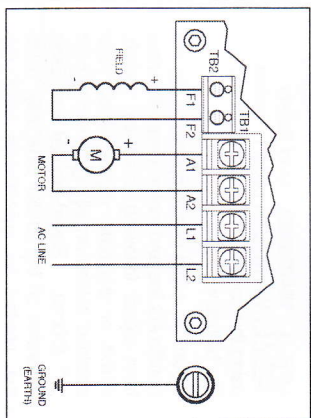

FIGURE 4 – FULL VOLTAGE FIELD
D. Full Voltage Field Connection (Shunt Wound Motors Only) – Wire the motor field leads to F1 (+) and F2 (-) terminals of TB2 as shown in Figure 4 & Table 4.